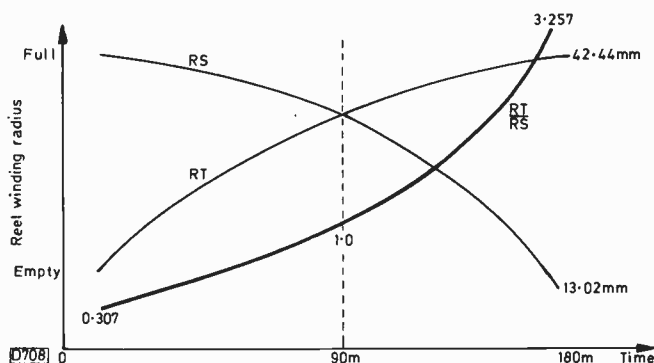

Fig. 1: Reel winding radius characteristics (E180 tape).
Fig. 1 shows how the tape winding radius of each reel varies with time for an E180 cassette – the winding radius for a full reel is 42.44mm while the relevant radius when the reel is empty is 13.02mm. The ratio of the take-up reel winding radius (RT) to the supply reel winding radius (RS) is also shown. It will be seen that this is virtually linear up to the half way point. To linearise the display, the counter monitors the ratio ( $\times 1,000$ ) of the winding diameters up to half way through the tape, when the count will be 1,000. At this point the tachometer information is automatically changed over. The count then reverses, counting down from 1,000 so that at the end of the tape we get the starting figure. To identify the second half of the tape, all the decimal points are displayed. In the normal play/record modes the display is updated at typically one-two minute intervals – the updating is proportionally faster in the wind and rewind modes of course.